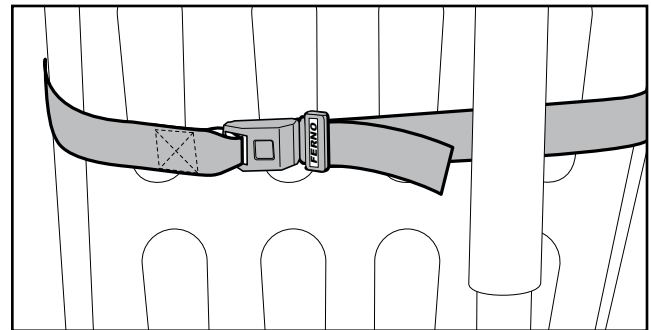

Figure 2 - Attach the Pedi-Mate® Backrest Strap
6. Run the ends of the backrest strap around the cot backrest until they meet in the back, then fasten the buckle (Figure 2). Leave some slack in the strap for final adjustment.